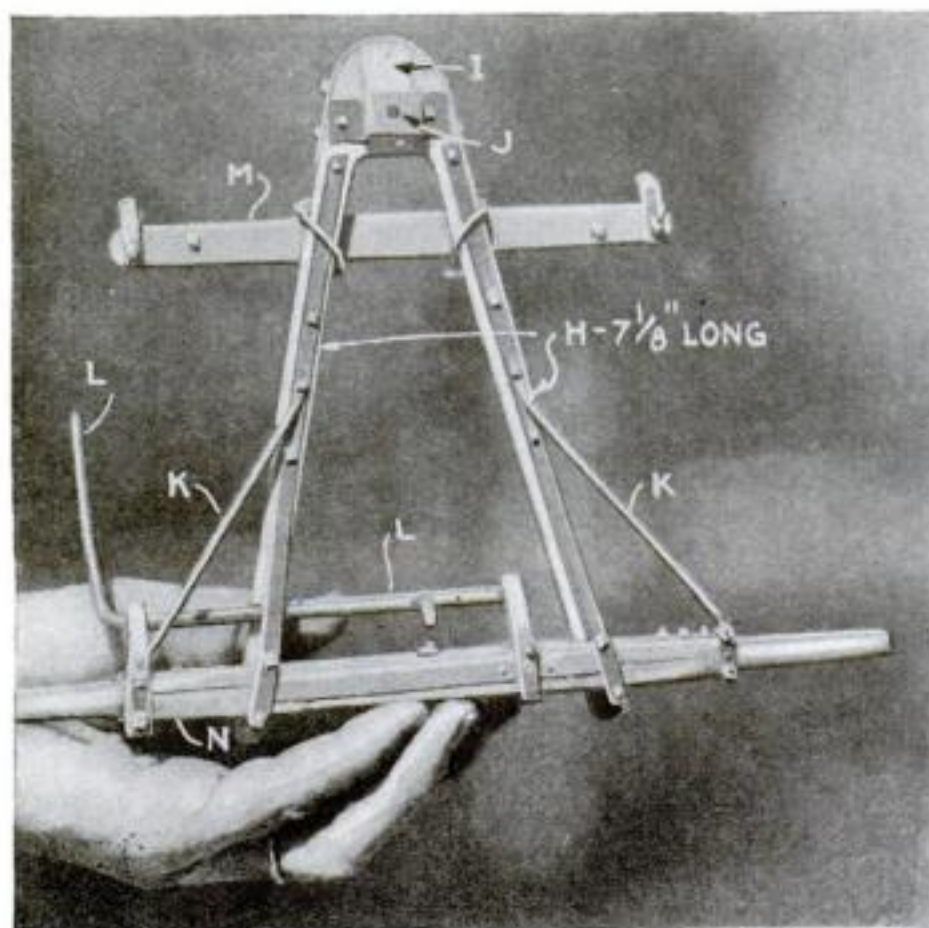

Fig. 4. Bottom view of the hind hounds *H* and rear axle *N* assembly. The rear bolster *C* is not shown, since it is entirely hidden by the axle *N*.
**HOUNDS. Hind (H):** Glue and brad together at the forward ends with the spacer block *I* between. Bolt on the binding plate and upper iron, and add to the underside the reach iron *J*. Notch above and below for the bolster and axle, and glue and nail these in place. Make irons as shown in Figs. 4, 5, and 9.
**Lever:** The short throw lever shown in Figs. 4, 5, and 9 is bound in place with wire before soldering. Be sure that the joint is clean before applying the wire binding, flux, and solder.